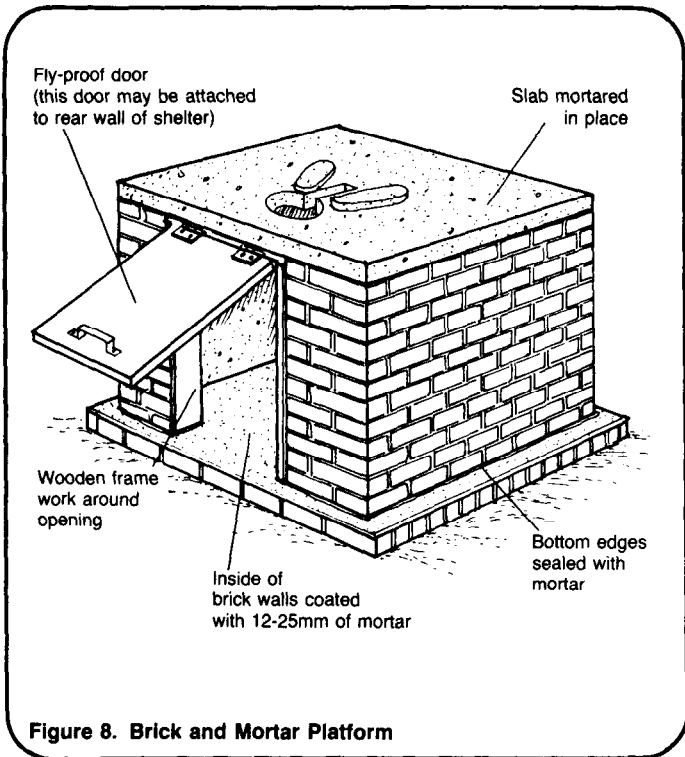

Figure 8. Brick and Mortar Platform
6. When the platform walls reach their design height, fill in any openings or holes in the top course of bricks with cement mortar. Allow one to three days for the walls to set. See Figure 8.